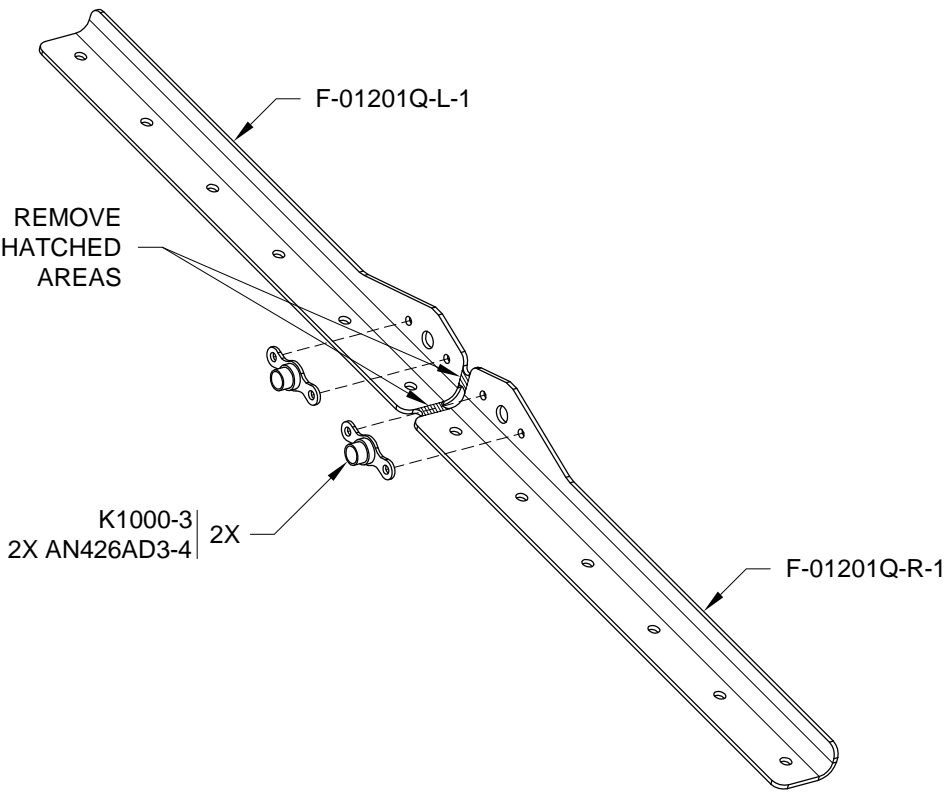

FIGURE 2: SEPARATING THE BATTERY BOX SIDE FLANGES
Step 3: Machine countersink #40 and attach nutplates to the F-01201Q-L-1 & -R-1 as shown in Figure 2.